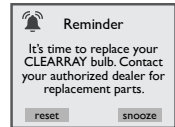

Figure 15.0d
20. CLEARRAY Replacement Reminder: This message will appear when the CLEARRAY bulb reminder time has expired (Figure 15.0d). The CLEARRAY bulb must be replaced.